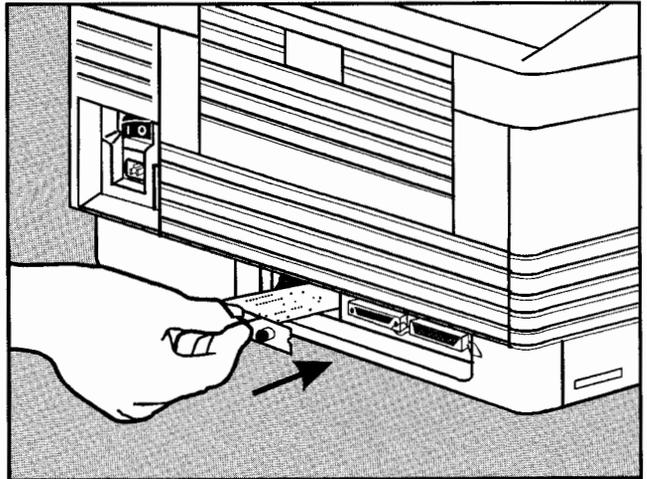

Figure 3-5. Installing the ThinLAN Adapter Card
- a. Hold the adapter card by its handle with the component side down, and push the adapter card firmly into the Optional I/O slot. See Figure 3-5.